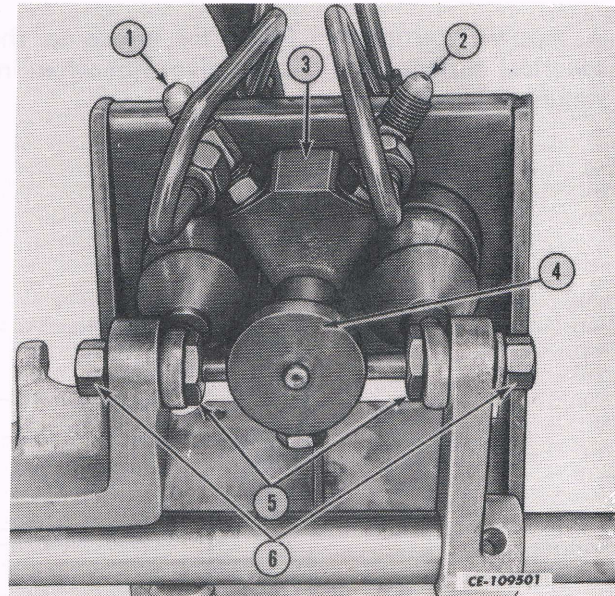
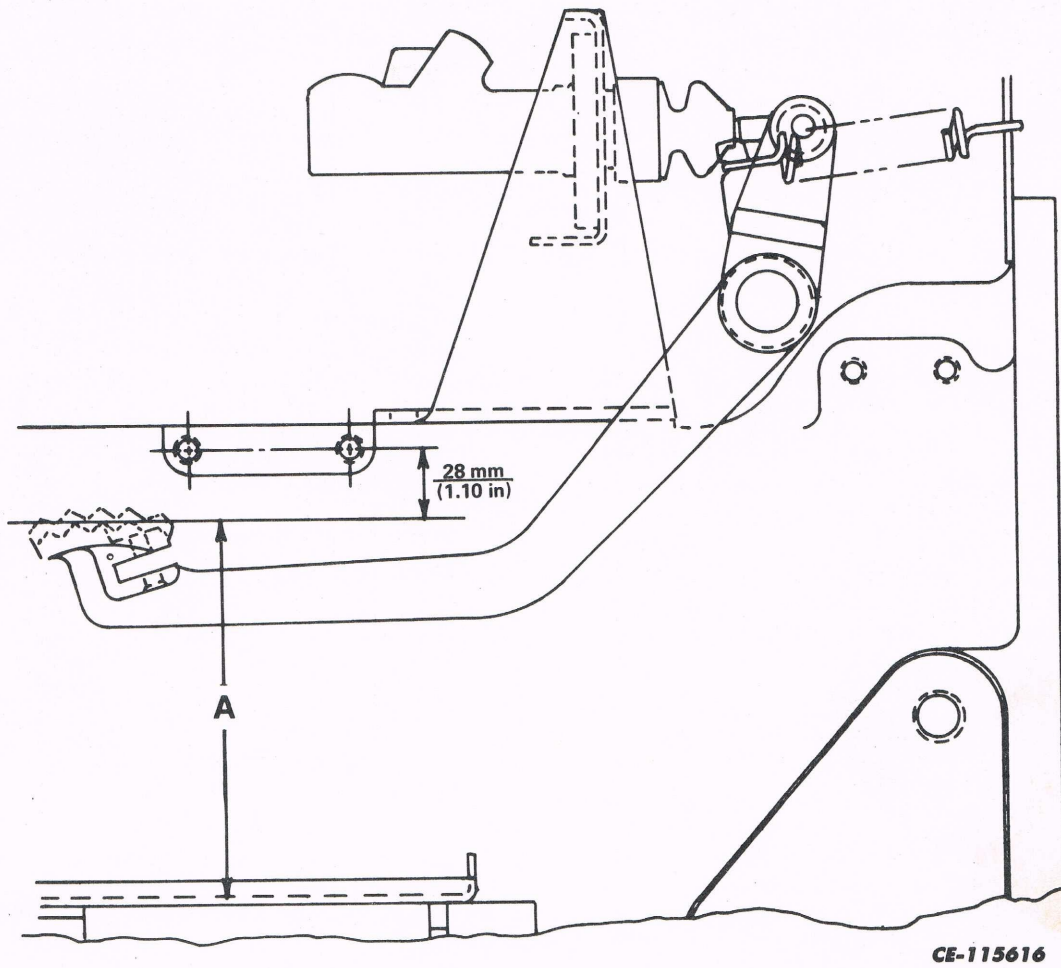

Fig. 9
Fig. 10
1. Each brake pedal has a special eccentric adjusting bolt (5, Fig. 9) for setting the brake pedal free height. These bolts work in conjunction with the equalizer valve assembly (3, Fig. 9). Loosen the lock nuts (6, Fig. 9) and rotate the eccentric bolts to obtain *140 mm (5.5 in) brake pedal free height (A), measured from the top of the brake pedal to the platform. See Fig. 10.
2. Apply a 45 Kg (100 lbs) load to the pedals. The following specifications should be met for the pedal height (A, Fig. 10):